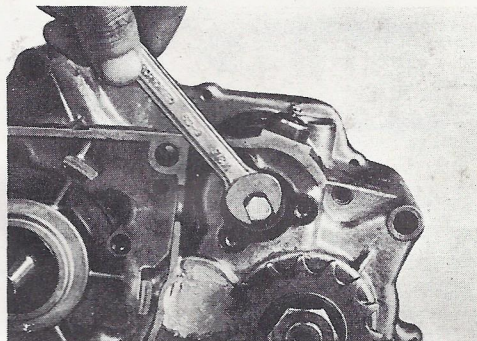

Fig. 3-15-3
- a. Remove the shifter drum mounting bolt and washer from the left side of the crankcase. (Fig. 3-15-3)